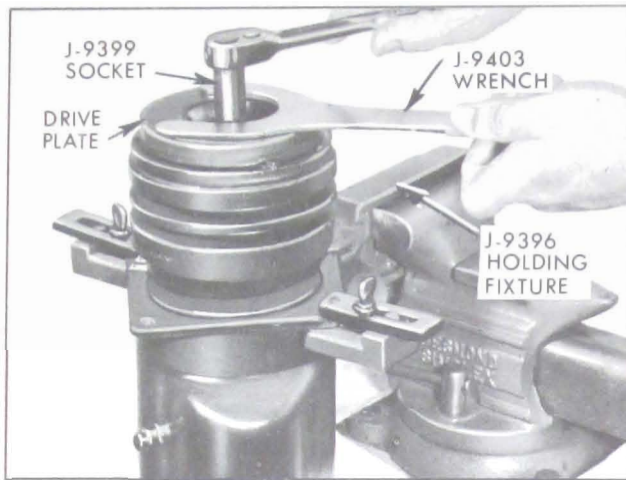

Figure 11-75—Removing Shaft Nut
1. Hold the clutch drive plate hub with J-9403 wrench and use J-9399 special thin wall 9/16" socket to remove shaft nut. See Figure 11-75.